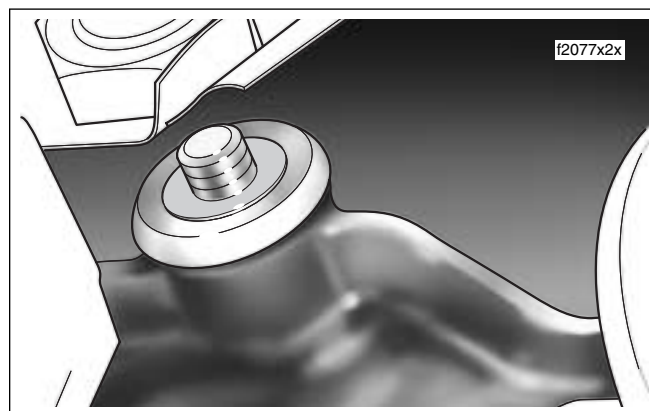

Figure 2-122. Remove Flat Washer and Upper Cup Washer (Right Side)
4. Remove lower handlebar clamp, flat washer and cup washer at top of upper fork bracket. See **Figure 2-122**.
5. Install cup washer over threaded end of bolt fitting concave side over collar of bushing. Install flat washer. See Figure 2-122.